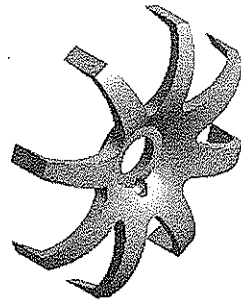

Figure 5-25 The model after creating the revolved cut feature
10. Choose the **Generate** tool from the **Features** toolbar; the revolved cut feature is created by revolving the sketch about the specified line by 360 degrees, refer to Figure 5-25.